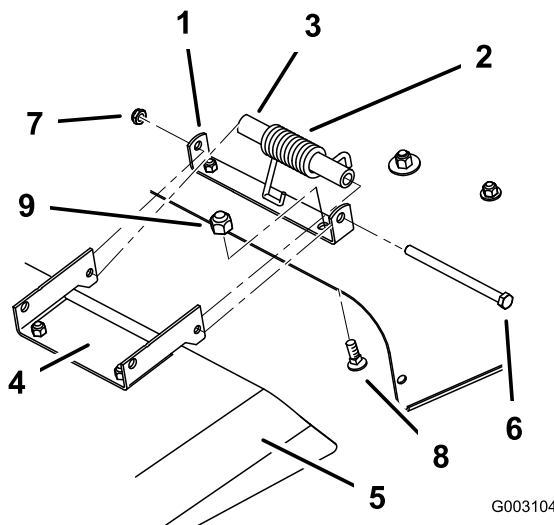

Figure 35
1. Install the mounting bracket onto the mower with carriage bolts (5/16 x 5/8 inch) and locknuts (5/16 inch) as shown in Figure 35.
2. Install the discharge chute onto the mower (Figure 35) in between the mounting brackets.
3. Align the discharge chute with the holes in the brackets and the spring and spacer in the space between the brackets and above the deflector (Figure 35).
4. Place the spring and spacer so that the hooked ends of the spring are pointing down, with one end contacting on the mower deck and the other over the deflector (Figure 35).
5. Secure the deflector to the mower bracket with the bolt. The bolt should pass through the grass deflector, spring, spacer, and brackets. Secure the assembly with the locknut (Figure 35).